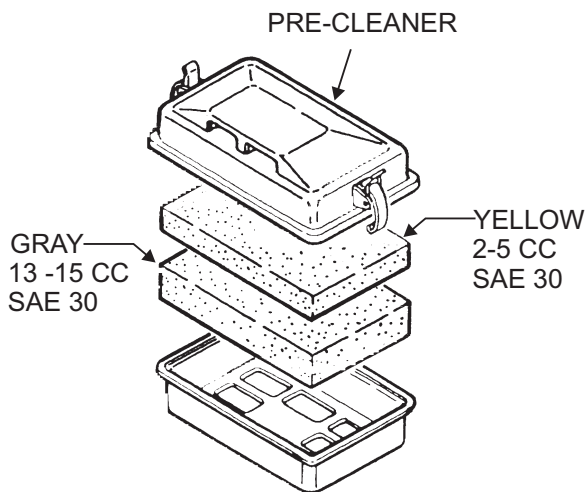

Figure 10. Pre-Cleaner
- Remove the element from the pre-cleaner (Figure 10) at the top of the crankcase (body side) and clean it with cleaning oil (kerosene).